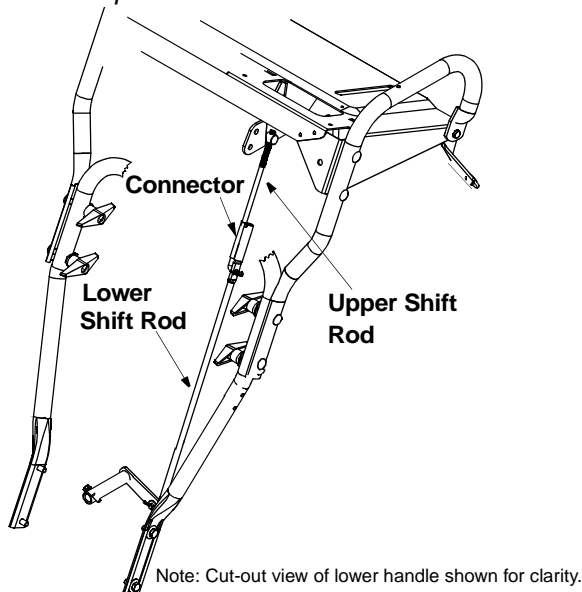

Figure 4
- Slide the shift rod connector down over the end of the lower shift rod. See Figure 4. Tap the connector until it **locks** on the lower shift rod.